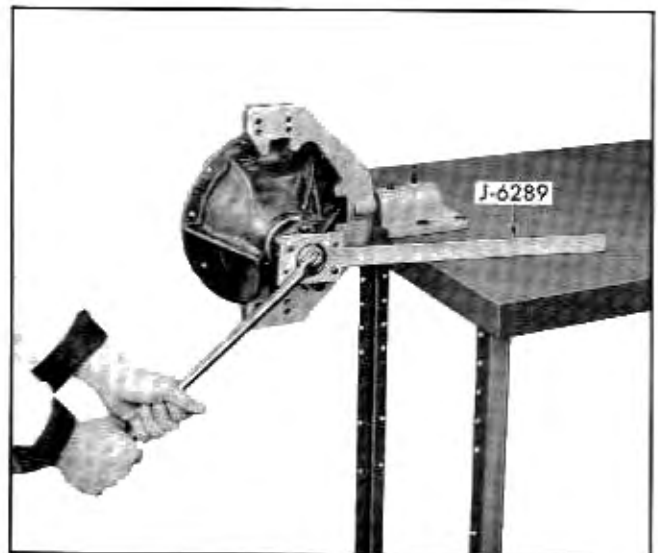

Fig. 4-36 Tightening Drive Pinion Nut
26. Position assembly as shown in Fig. 4-36 and tighten nut only enough to remove most of end play, using Flange Holding Tool J-6289 and heavy duty socket.